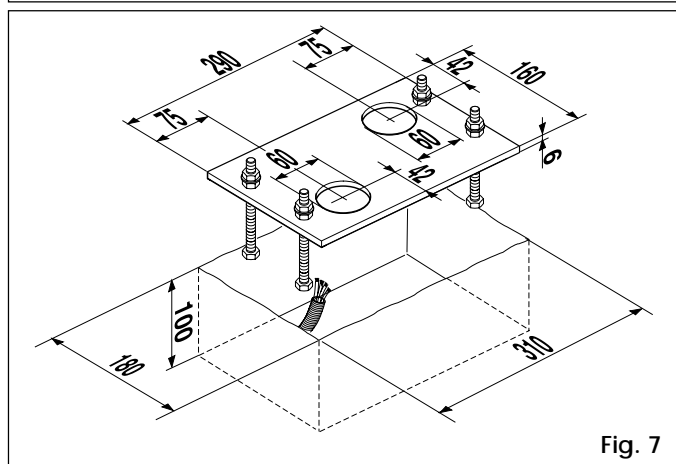

Fig. 7
- 3) Prepare a foundation plinth as shown in Fig. 7 and install the base plate providing one or more conduits for electrical cables. Use a level to check that the plate is perfectly horizontal and wait for the cement to set.